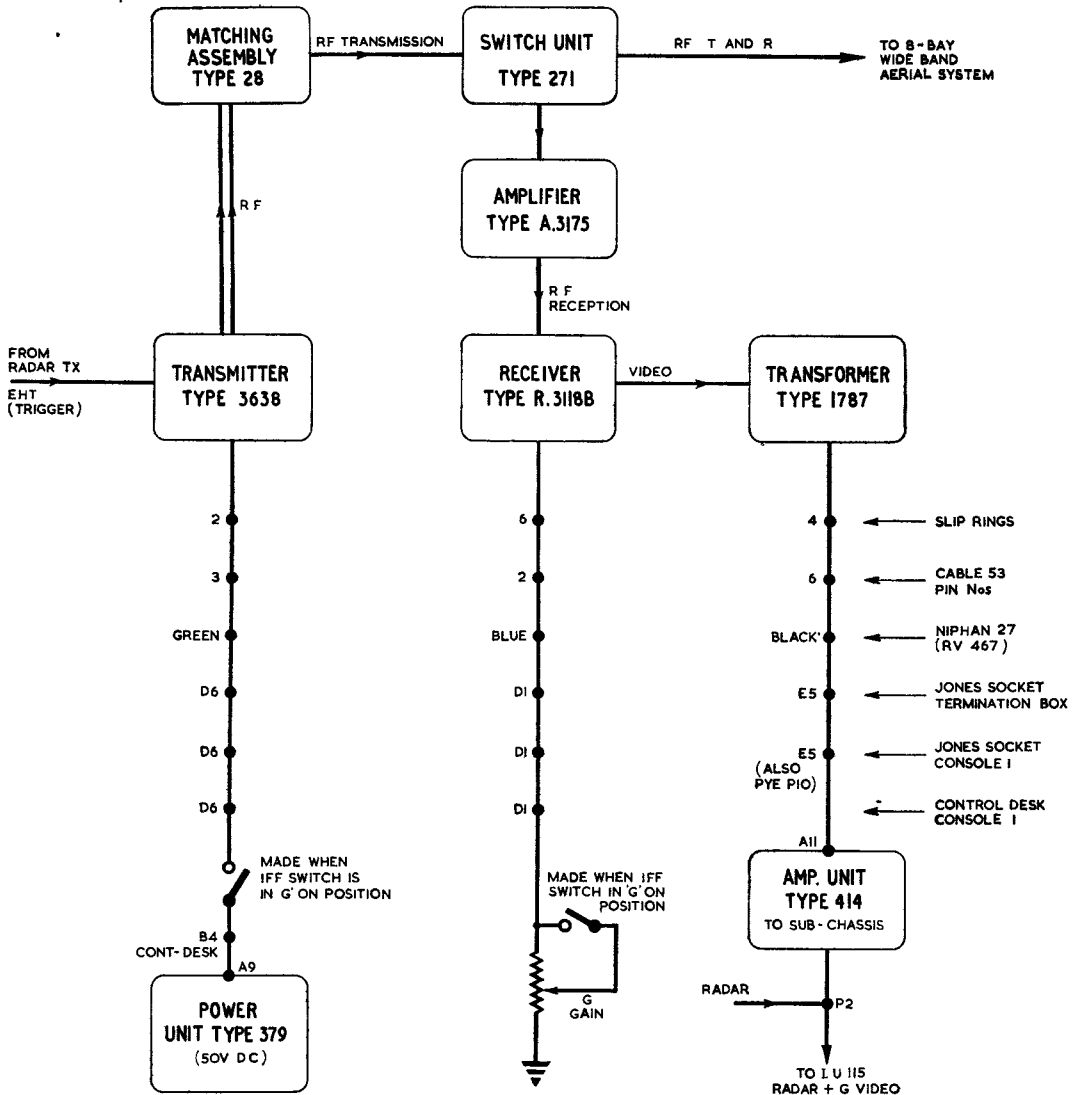

Fig. 40. G-band IFF : schematic diagram
129. A schematic diagram of the G-band IFF system is given in fig. 40.
**133.** The switch, A ON-OFF-G ON, on console 1 control desk has two functions in the G ON position (fig. 40).
(1) 50V DC is passed to the G-band transmitter and energizes a relay which permits the transmitter to oscillate. The EHT acts as a sync. pulse.
(2) The G-band remote gain control is brought into circuit.